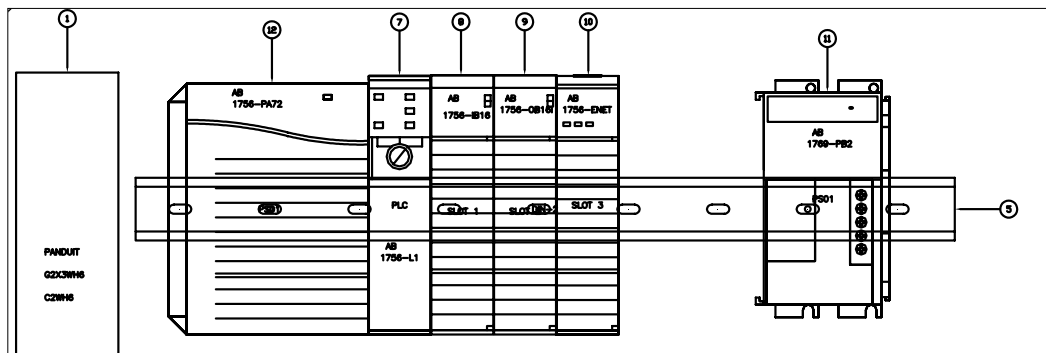

Figure P2-19 Attributes inserted in the upper part of the panel layout drawing
10. Similarly, you need to make Xdata of the rest of the footprints visible. To do so, repeat step 1, select the remaining footprints, and then place the attributes in the footprints, as shown in Figures P2-19 and P2-20. Figure P2-21 shows the panel layout drawing after inserting the attributes.